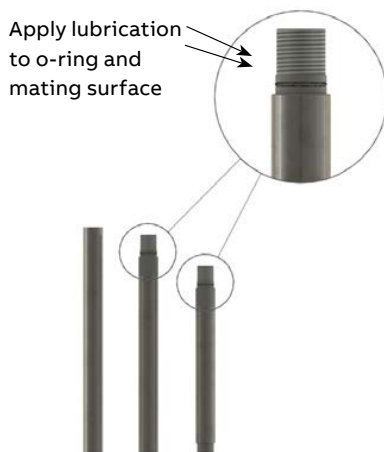

Figure 8 W7 Well Threaded Connection
- 1 Prepare section joints by lubricating the O-ring and mating surface of male threaded portion (Figure 8). For detail refer to LMT100 Probe Type W7 in section 12 Dimensional Drawing